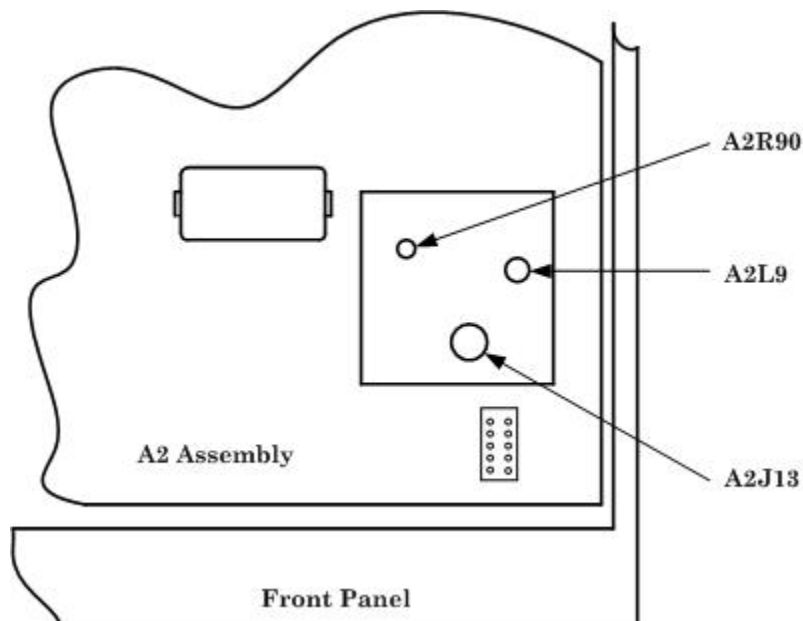

Figure 3. Adjustment locations.
(1) Connect TI **POWER REF** output to frequency counter **A** input.
(2) Press TI **Zero Cal**, [**Cal**], **More**, [**Power Ref On**] keys.
(3) Adjust A2L9 (fig. 3) for 50.0 ± 0.5 MHz.
(23) Adjust A2R90 (fig. 3) until multimeter indicates value calculated in (22) above.